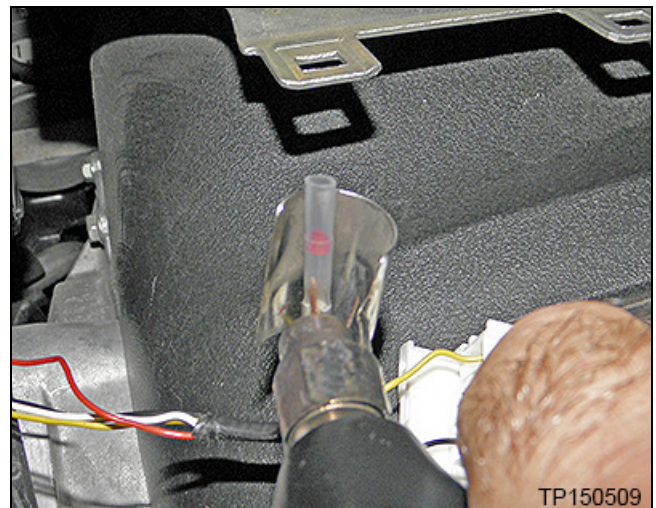

Figure 10
12. Apply heat (Figure 10) with a Flameless Heat Gun (#J-46538) until: